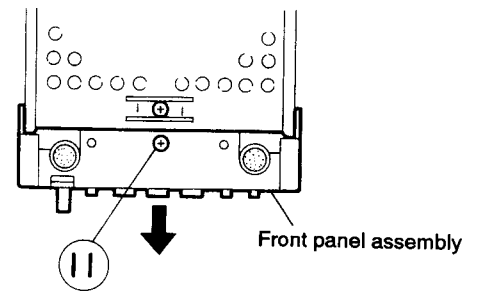

Fig. 5-15
■ Removing the front panel (See Figs. 5-15 ~ 5-17)
1. After turning over the body, remove the one screw ⑪ retaining the door holder from the front panel (See Fig. 5-15).